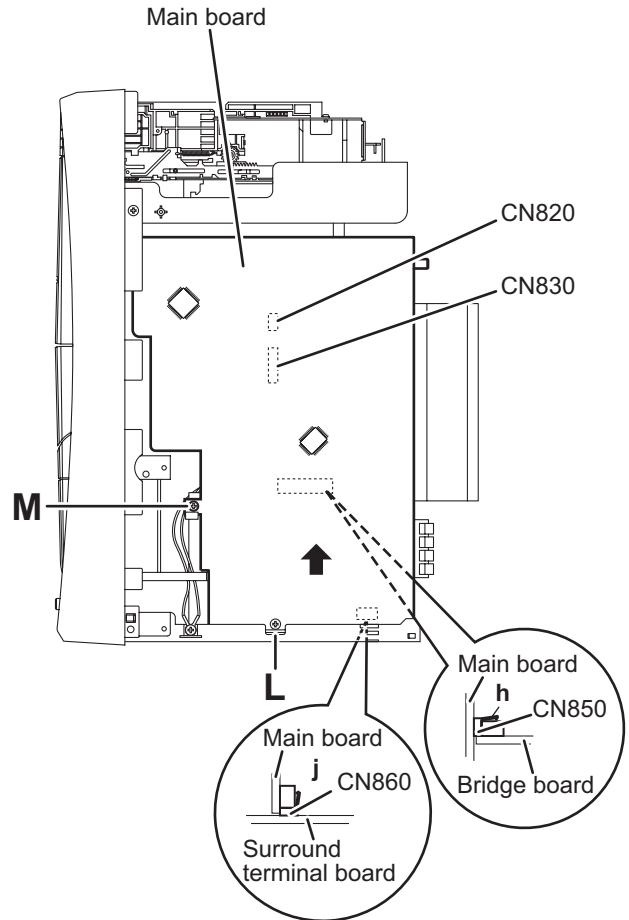

Fig.15
3.1.8 Removing the main board (See Fig.15)